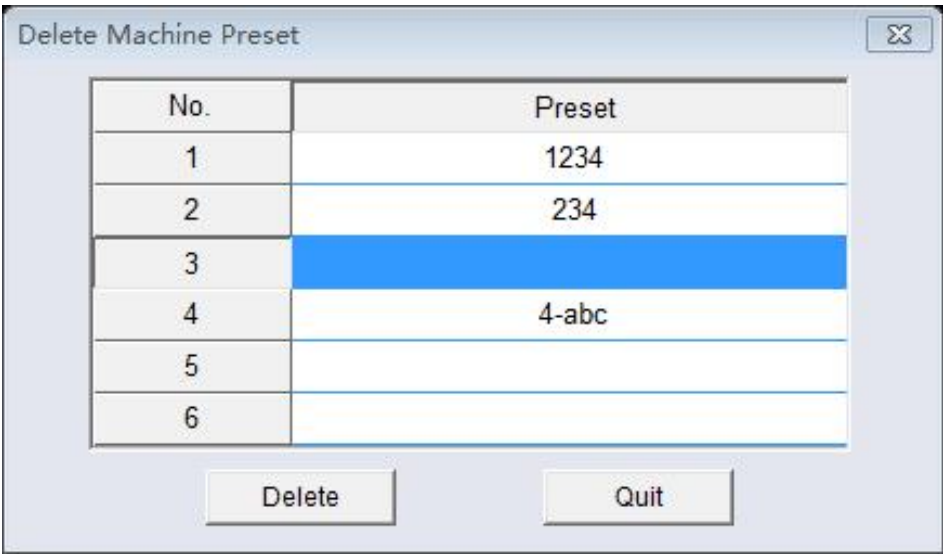

figure 3.4.9
Step 4: the dialog as shown in "Yes" on figure 3.4.8 to confirm the deletion, machine delete preset scene is complete, and can see the machine preset number 3, there is no name (Figure 3.4.9).